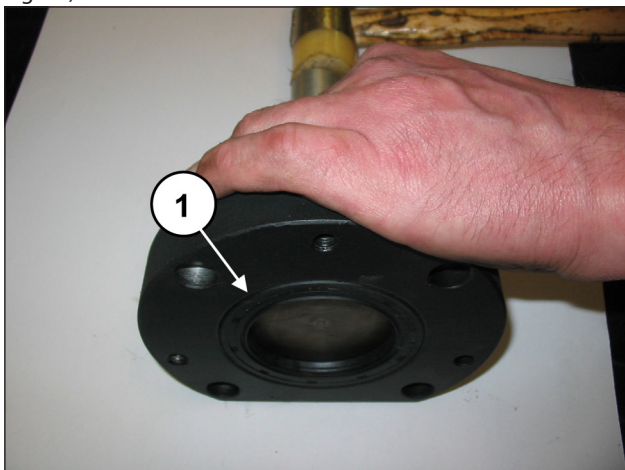
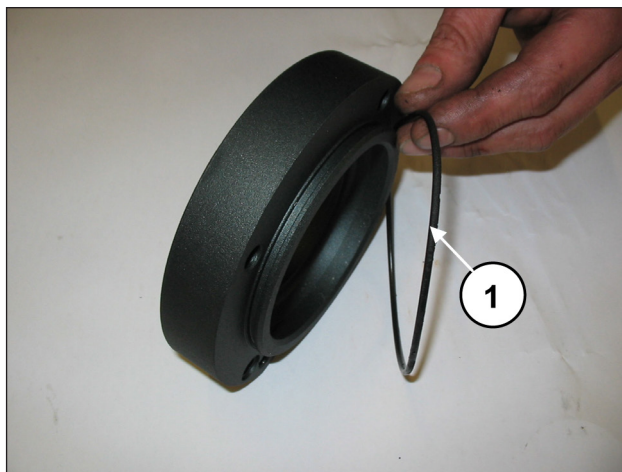
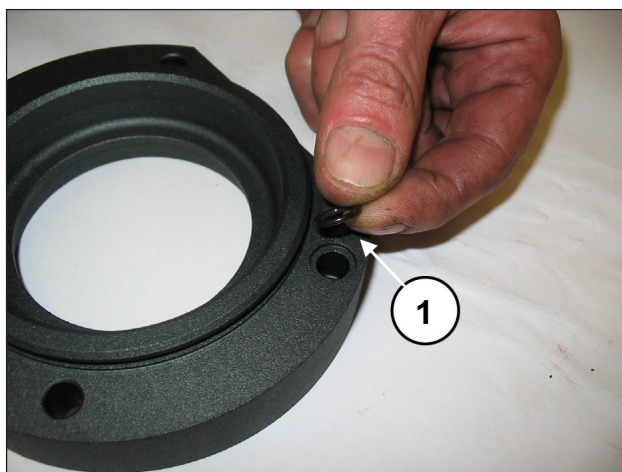

Fig. 29
Fig. 30
Fig. 31
Take out the radial seal ring (pos. ①, Fig. 29), the outside O-ring (pos. ①, Fig. 30) and the lubrication hole O-ring (pos. ①, Fig. 31).